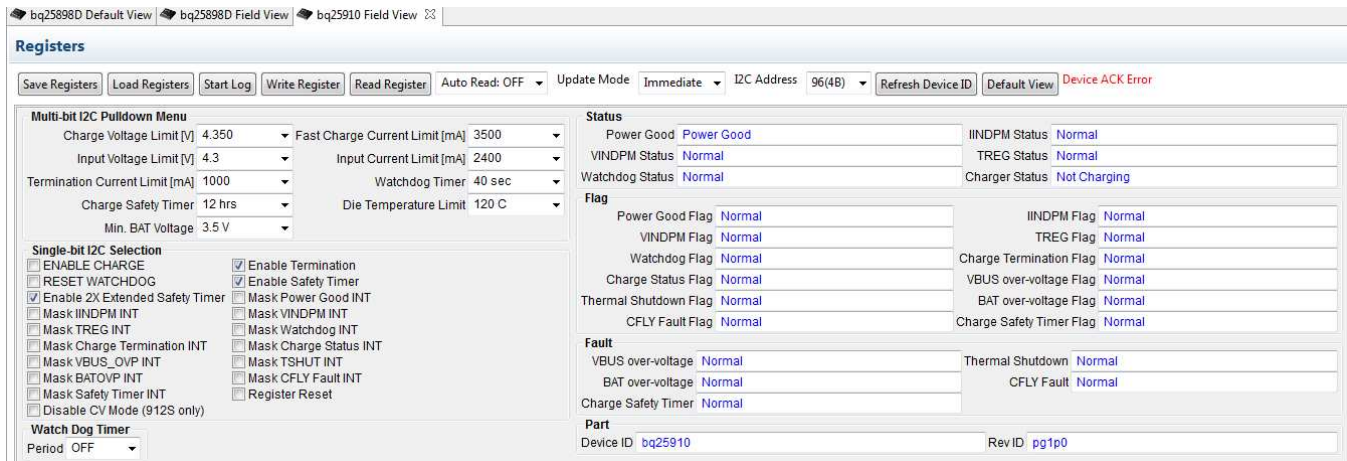

Figure 4. bq25910 Registers
- Figure 4 shows the configurable registers, single-bit I2C commands and status registers available for the bq25910.